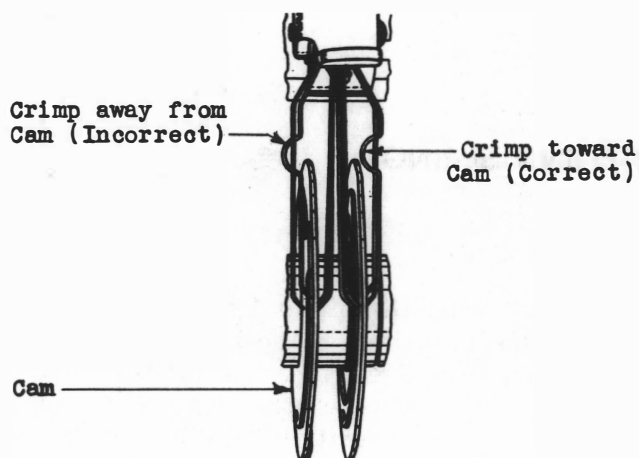
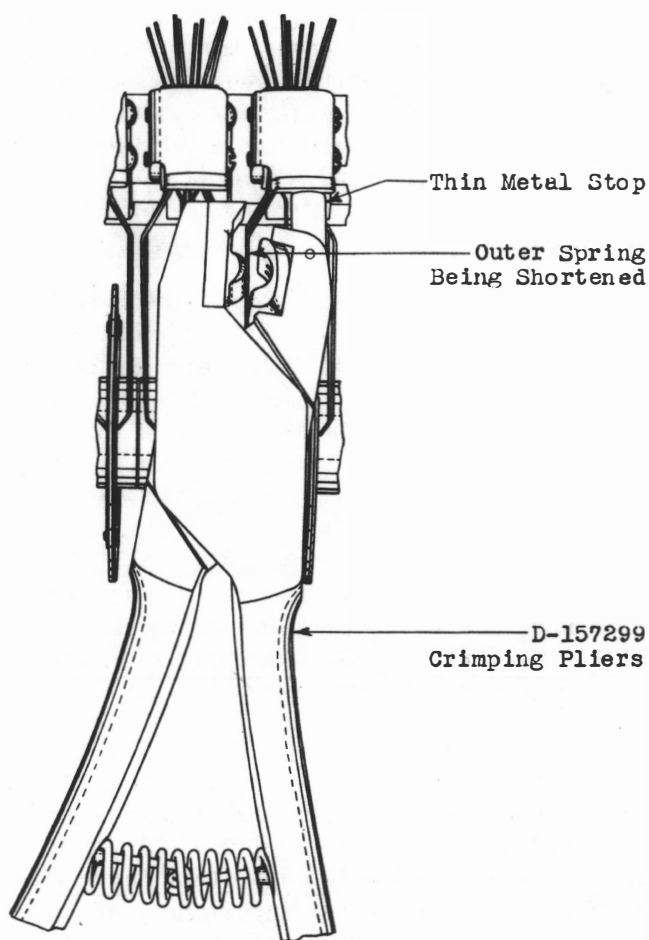
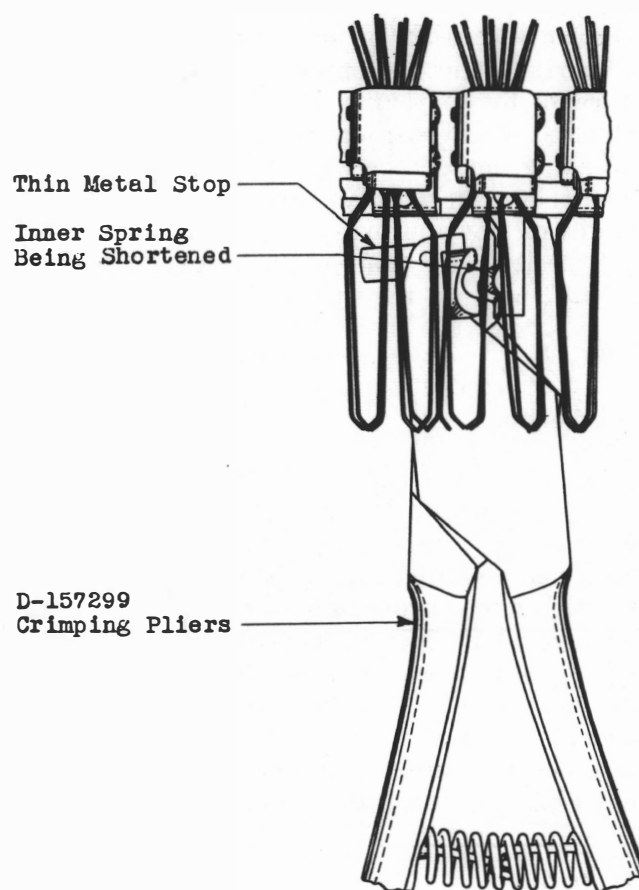

Fig. 1 – Correctly and Incorrectly Crimped Springs
Fig. 2 – Method of Shortening Outer Springs
Fig. 3 – Method of Shortening Inner Springs
3.03 Turn the thin metal stop of the D-157299 crimping pliers so the stop extends in line with the length of the tool. In using the crimping pliers, care must be exercised to place the tool on the spring to be shortened so that the resulting crimp will be toward the cam to avoid the possibility of short circuits between the shortened spring and adjacent springs. (See Fig. 1.) Therefore, in crimping the No. 2 spring hold the pliers so the thin metal stop is on the right hand side of the pliers as shown in Fig. 2; while in crimping the No. 3 spring hold the pliers so the stop is on the left hand side.
3.04 Place the crimping pliers in position for crimping as follows: Place the pliers above the spring to be shortened with the crimping lips directly over the spring. Hold the handles of the pliers slightly higher than the crimping end and, for a No. 2 spring, slightly offset to the left as shown in Fig. 2. (For a No. 3 spring hold the handles slightly offset to the right.) Then press the pliers down firmly into position and allow the handles of the pliers to move down-
3.07 Make the metal stop of the D-157299 crimping pliers ineffective by turning it at right angles to the length of the tool. Care must be exercised to place the tool on the spring to be shortened so that the resulting crimp will be toward the cam so as to avoid the possibility of short circuits between the shortened spring and adjacent springs (see Fig. 1). Therefore, in crimping the No. 1 spring hold the pliers so the thin metal stop is on the right hand side of the pliers, while in crimping the No. 4 spring hold the pliers so the stop is on the left hand side as shown in Fig. 3.
slightly offset to the right as shown in Fig. 3.) Then press the pliers up firmly into position and move the handles of the pliers upward so that the upper side of the pliers rests against the springs.